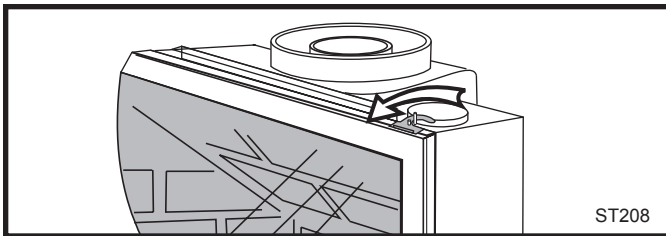

Fig. 58 Release the latches to release the glass frame.
1. Remove stove front. Lift stove front up and then swing bottom out and away to disengage from the stove body. (Fig. 58, Page 30)
Replace glass only with Vermont Castings Group approved parts. Refer to Page 33 for Replacement Parts. Refer to Figure 58 and previous instructions for removal of the damaged glass frame.
1. Remove the Front, Glass Frame and Glass Panel. (Figs. 58 & 59) Remove the old gasket. Use a razor blade to separate the glass and gasket from the frame, and to clean the glass of any remaining cement or bits of gasket. Use a cold chisel if necessary.